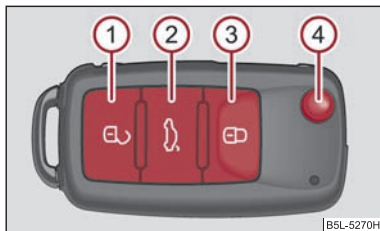

Fig. 30 Remote control key
- Press the button ① ⇒ fig. 30 for about 1 second.